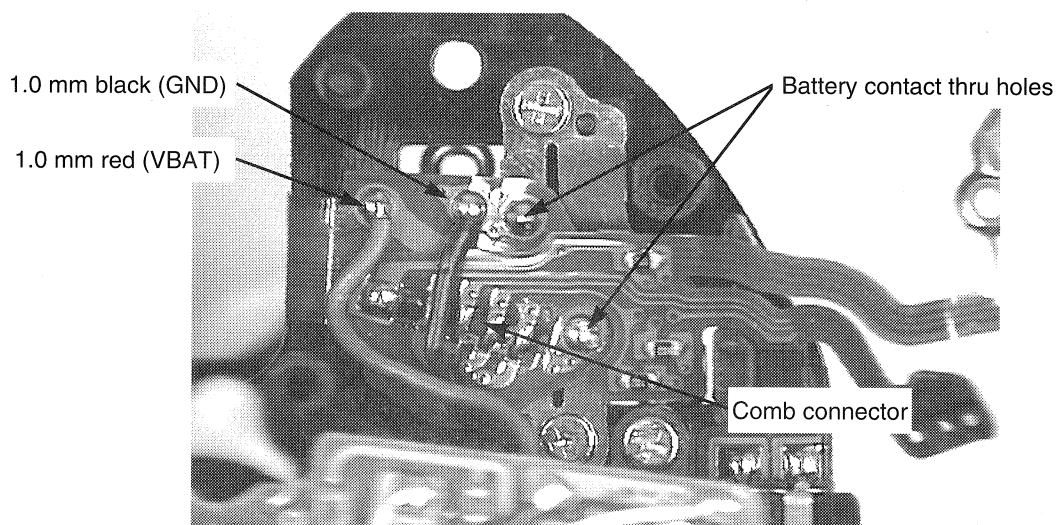

Figure 3-20 Battery Contact
- Disconnect the two leads from the battery contact (on release flex). (Fig. 3-20)
10. Release flex unit (9) removal
- Remove the comb connector from the main flex. (Fig. 3-20)
11. Unsolder thru holes at battery contact. (Fig. 3-20)